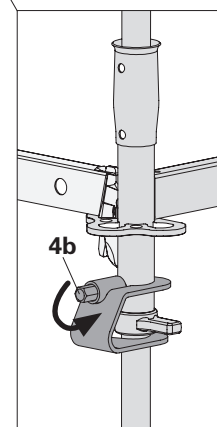

Fig. A1.02b
- Tighten the hex. nut of the spindle locking (4b). (Fig. A1.02b)